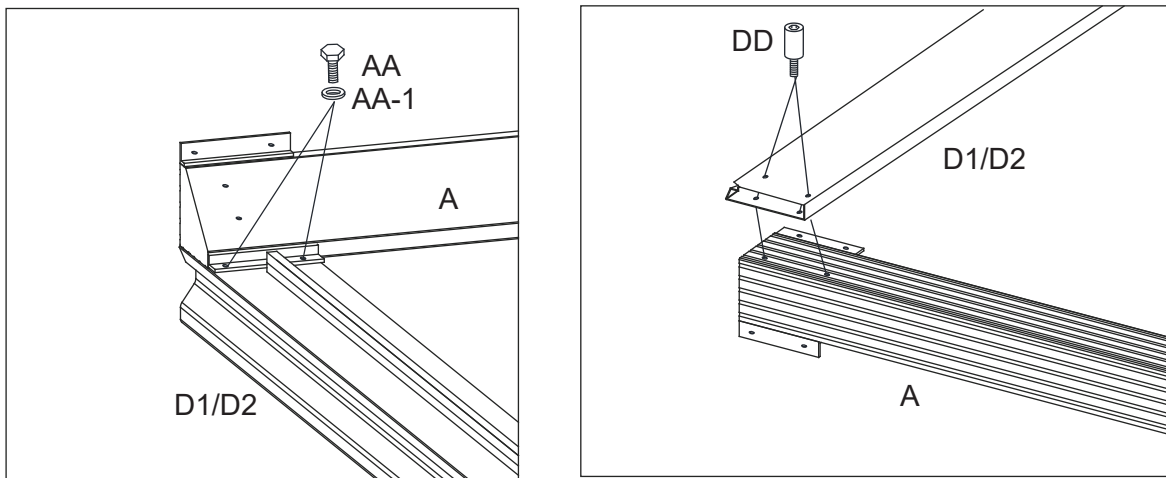

Figure 4-1
- 4.1: Attach Long Lintels (D1 and D2) to end of Corner Posts (A) first with Bolts (AA) and Steel washer (AA-1) then with Bolts (DD). Tighten all Bolts. See Figure 4-1.